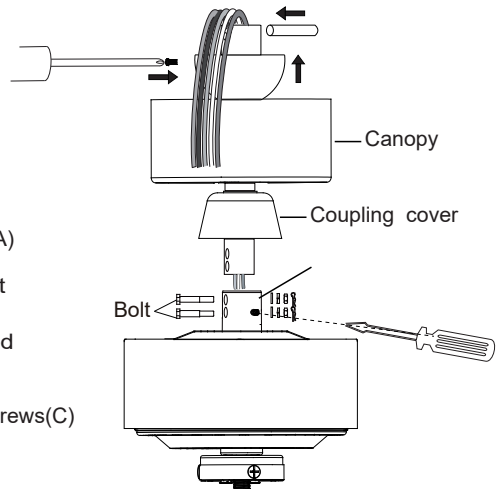

Fig.4
2. Carefully feed the fan wires up through the down rod.(Fig.4)
3. Assemble the down rod into the motor coupling housing, line up the coupling holes with the down rod holes and insert the pin(B). by tightening coupling housing with the parts screws(C).(Fig.4)
4. Insert the coupling cover through the down rod to cover the down rod coupling housing.(Fig.4)
5. Insert the canopy through the down rod and install the ball joint and pin back onto the down rod and secure by tightening the parts screws(C).(Fig.4)